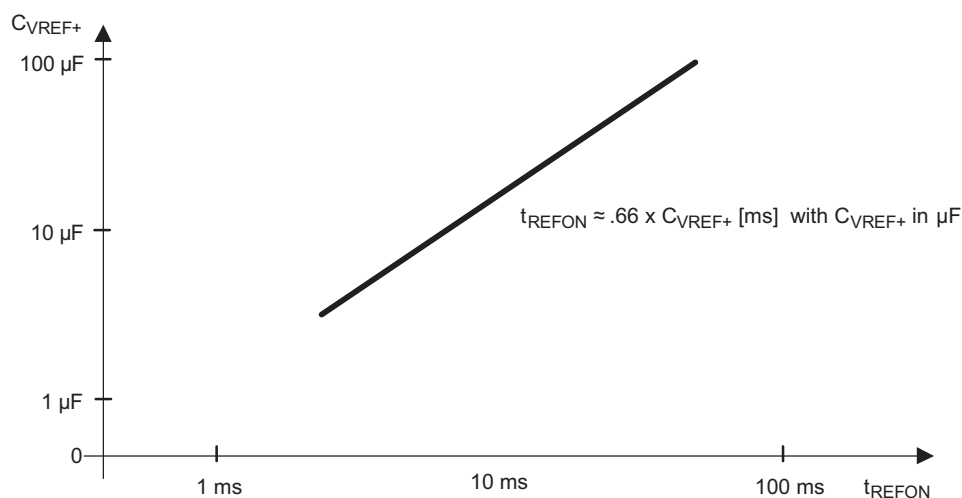

Figure 39. Typical Settling Time of Internal Reference tREFON vs External Capacitor on VREF+
| t REFON      | Settle time of internal reference voltage (see Figure 39) (4) (2) | I VREF+ = 0.5 mA, C VREF+ = 10 μF,V REF+ = 1.5 V, V AVCC = 2.2 V                         |                | 2.2 V           |      |      | 17   | ms     |
(1) Not production tested, limits characterized.
(2) Not production tested, limits verified by design.
(3) The internal buffer operational amplifier and the accuracy specifications require an external capacitor. All INL and DNL tests uses two capacitors between pins VREF+ and AVSS and VREF-/VREF- and AVSS: 10 μF tantalum and 100 nF ceramic.
(4) The condition is that the error in a conversion started after tREFON is less than ±0.5 LSB. The settling time depends on the external capacitive load.